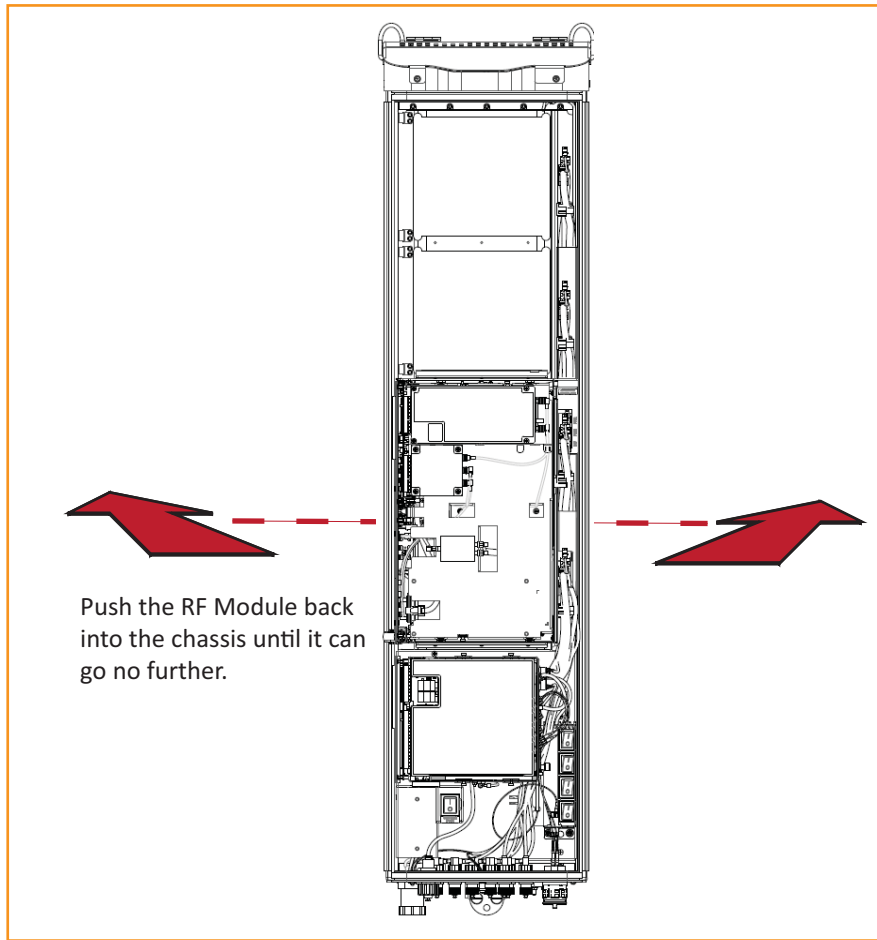

Figure 17. Seating a Dual-Bay RF Module
- For Dual-Bay RF Modules, see Figure 17 on page 33, which uses the Legacy Dual-Bay 40W RF Module as an example.